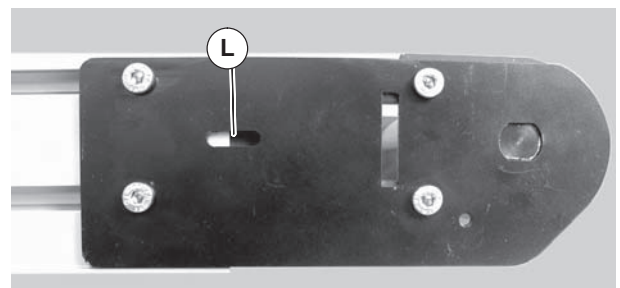

Figure 30
- Extend head plate assembly until proper tension in the belt is achieved. If proper tensioning can not be obtained before the belt life indicator is all black (Figure 30, item L) the belt must be replaced.